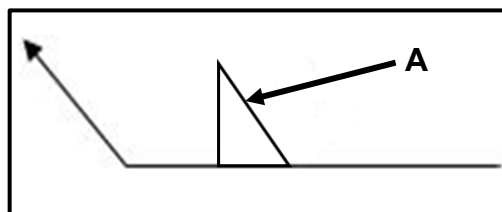

FIGURE 4.2
4.2 What type of weld is indicated by the supplementary symbol **A** shown in FIGURE 4.2 below?